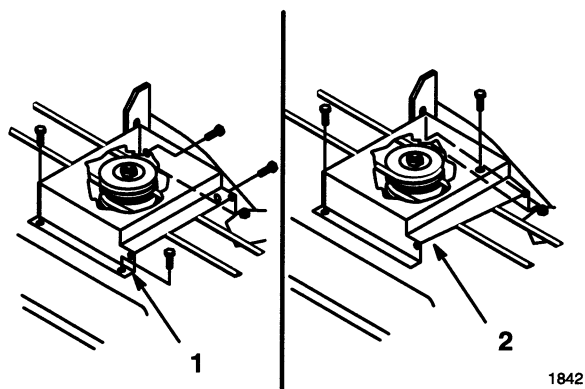

Figure 35
2. Remove the mower belt cover from the right side pulley (Fig. 35). Save mounting hardware.
3. Unhook blower belt from blower pulley and slide the belt out of opening in belt cover (Fig. 35).